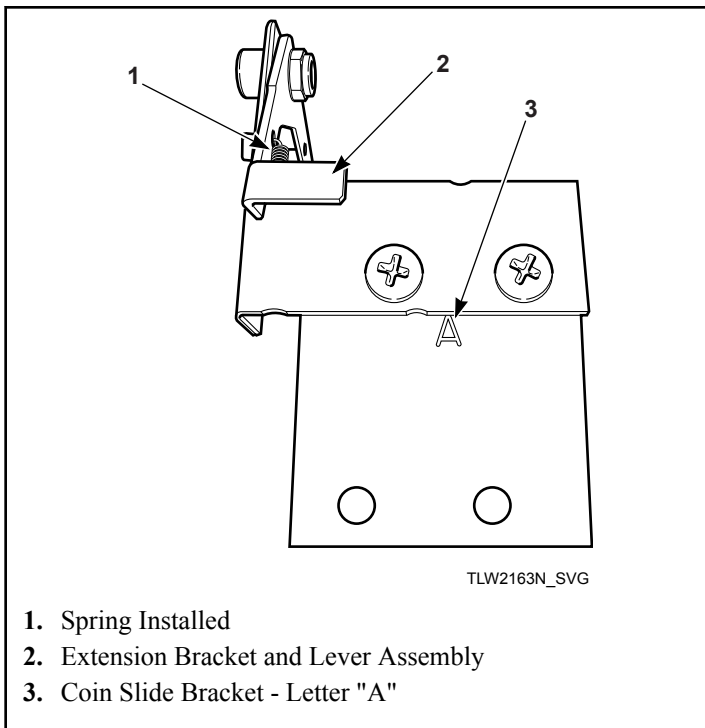

Figure 19
5. Install extension bracket and lever assembly onto coin slide bracket using two screws and locknuts. Refer to *Figure 19*.
- IMPORTANT: Install coin slide bracket with side marked "A" facing up and toward extension bracket and lever assembly. Refer to *Figure 19*.**